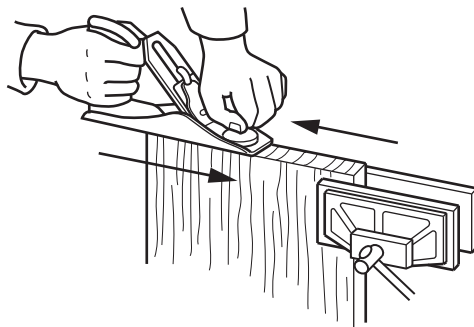

Fig. 5
- 6 Fig. 5 shows the end grain of a piece of hardwood being planed. The wood is planed from each end to the centre, as shown by the arrows, to prevent it from splitting.